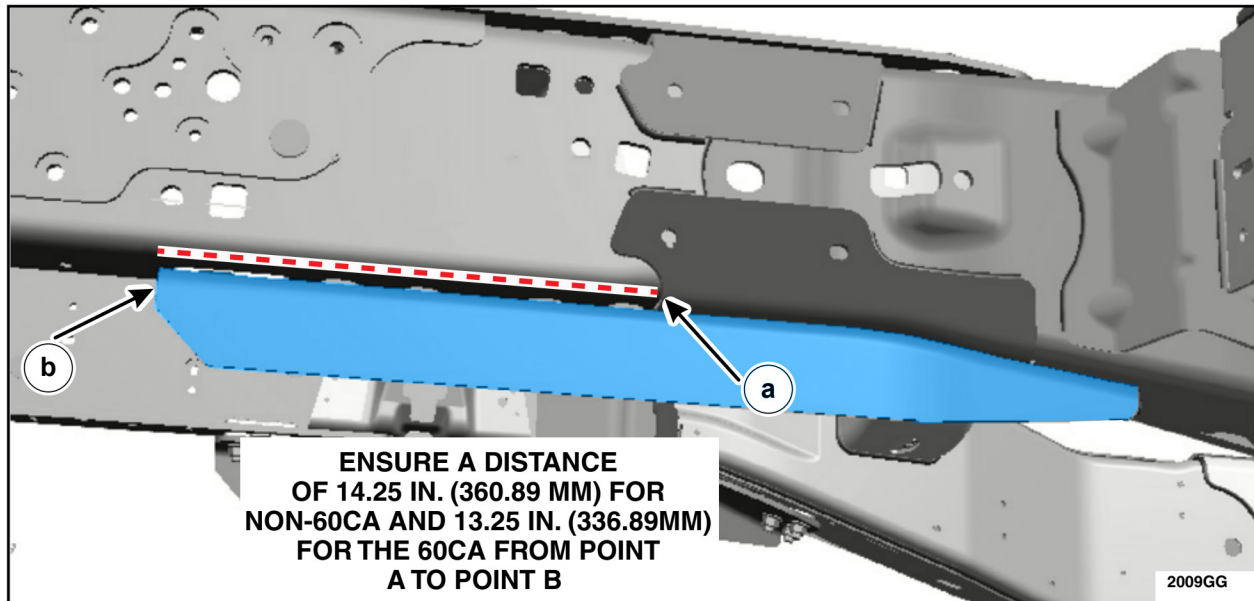

FIGURE 22
2. Measure from point 'a' to point 'b' and ensure that the measurement is equal to 14.25 in. (360.89 mm) for Non-60CA frames and 13.25 in. (336.89mm) for the 60CA frames. If not, adjust the bracket as needed and reclamp the bracket to the frame. See Figure 22.